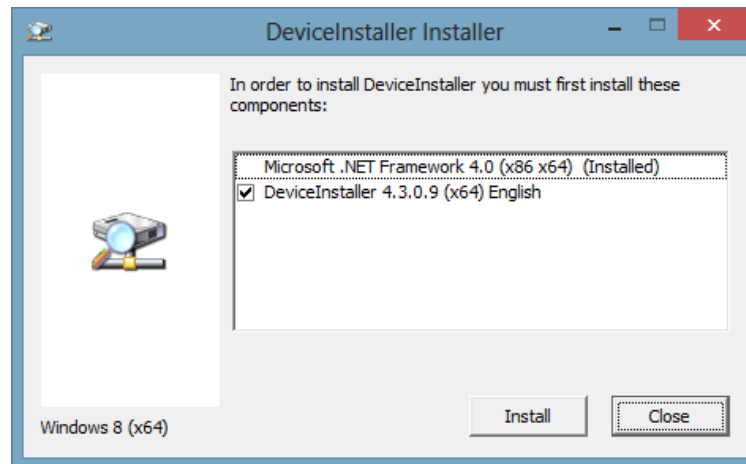

Fig 3.3.1
3.3 If Microsoft .Net Framework (as shown in Fig 3.3.1) is not installed, install the Framework first. Otherwise click “Install” to install the “DeviceInstaller 4.3.0.9”.